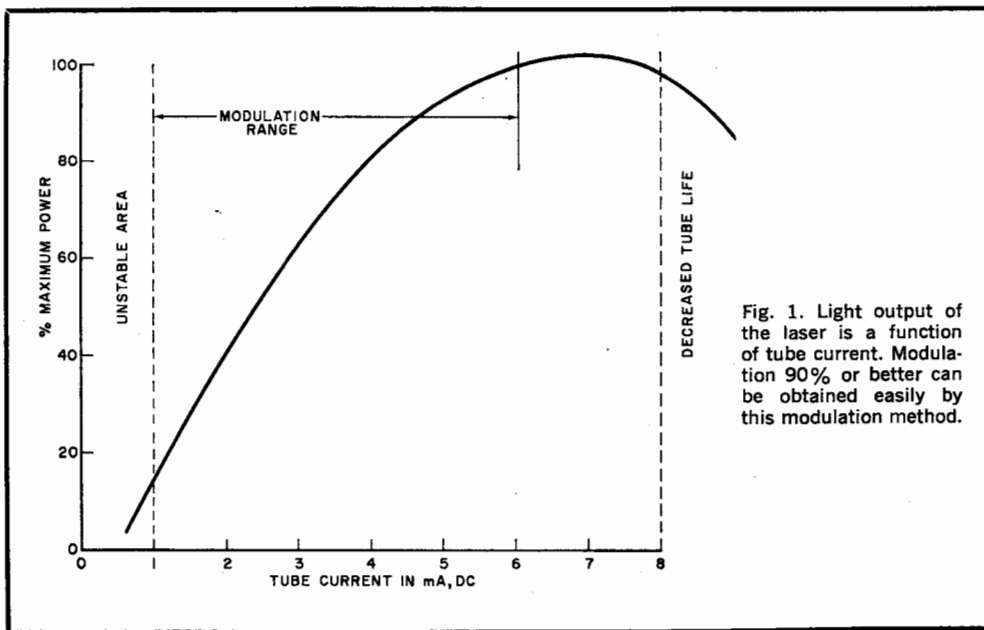

Fig. 1. Light output of the laser is a function of tube current. Modulation 90% or better can be obtained easily by this modulation method.
**Laser Modulation.** The light output of a gas laser such as the 0.5-mw helium-neon type described in our previous article is a function of the current flowing through the laser tube (see Fig. 1). At very low currents, the laser becomes unstable and
the curve in Fig. 1) has been set by the bias potentiometer, an audio input to the pentode causes the laser current to fluctuate about the operating point and the emitted light is amplitude modulated.